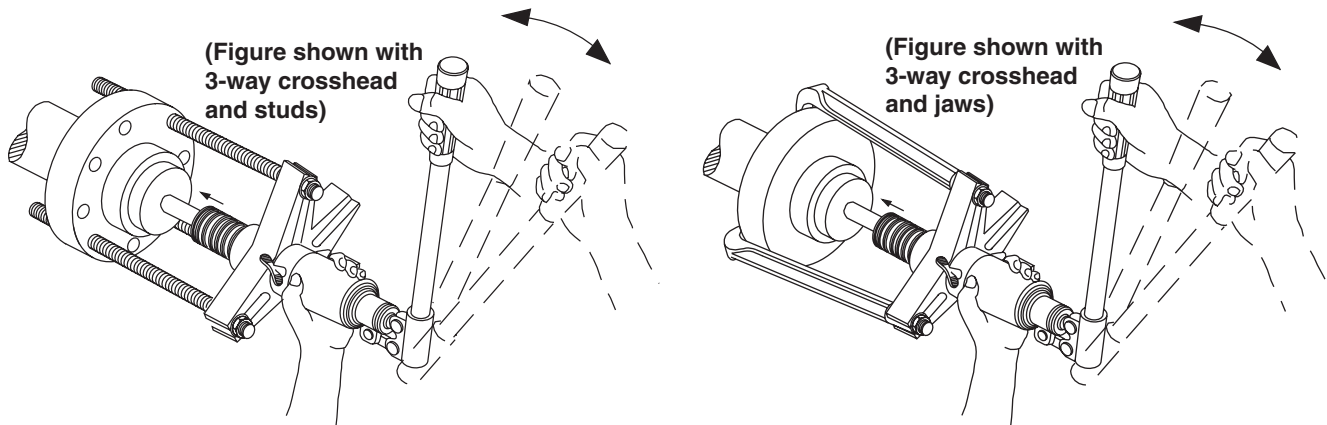

Figure 5
6. Hold the puller with one hand and pump the handle with your other hand, advancing the piston until the part is removed. See Figures 5 & 6.